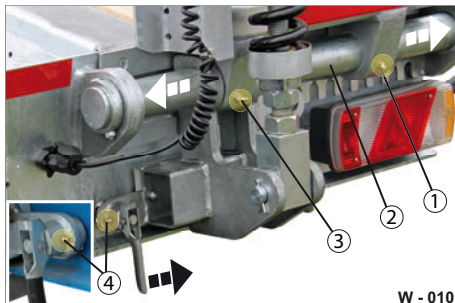

Fig. 19 Lubricating ramp bearing
- ▶ Lubricate the bearing on the lubrication nipple (Fig. 19/1,3,4) with a grease gun until lubricant escapes.
- ▶ Lubricate the pin bearing points (Fig. 19/2) with machine lubricant.